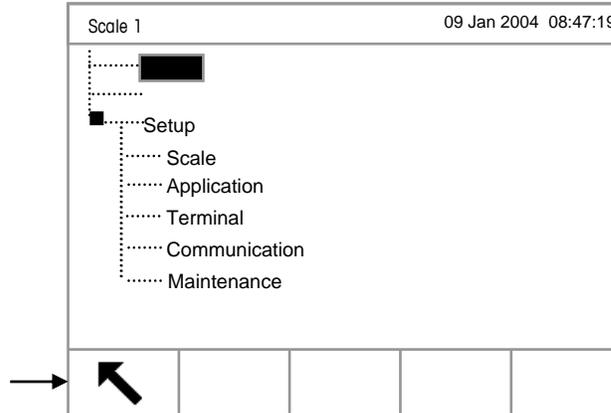

Figure 3-17: Setup Menu Tree Screen
1. From the setup menu tree screen, press the EXIT softkey (see Figure 3-17).